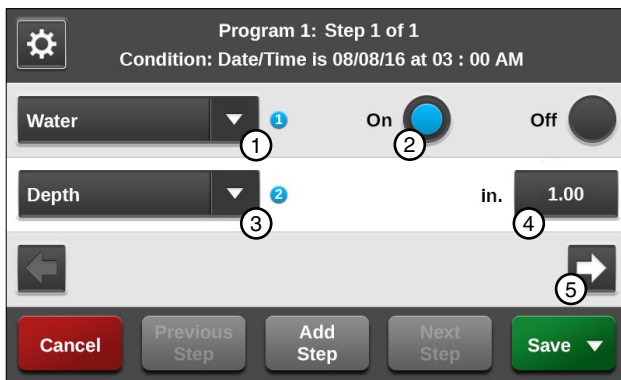

Figure 132-2 1. Water Command 4. Inches
- a) Select the **Choose Command** drop-down menu and choose **Water**. Refer to Figure 132-2.